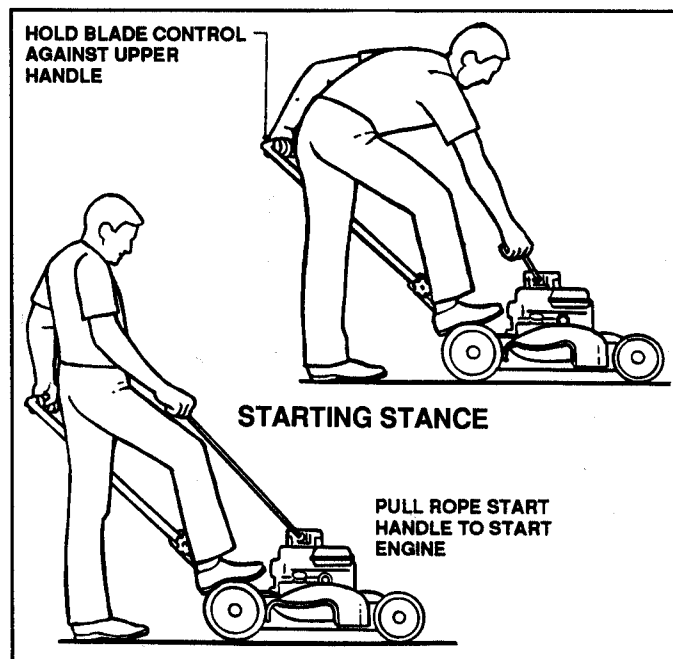

FIGURE 4
3. Hold the BLADE CONTROL firmly against the upper handle. See Figure 4.